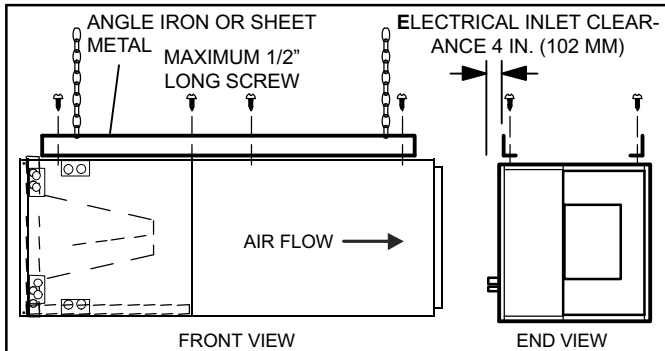

Figure 3. Suspending Horizontal Unit
- If the unit is suspended, the entire length of the cabinet must be supported. If you use a chain or strap, use a piece of angle iron or sheet metal attached to the unit (either above or below) to support the length of the cabinet. Use securing screws no longer than 1/2 inch to avoid damaging the coil or filter. See figure 3. Use sheet metal screws to connect the return and supply air plenums as required.